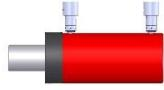

Figure 5.3
**Double-Acting:** If possible, position double-acting cylinders on their side with the couplers facing upward, as illustrated in figure 5.3.